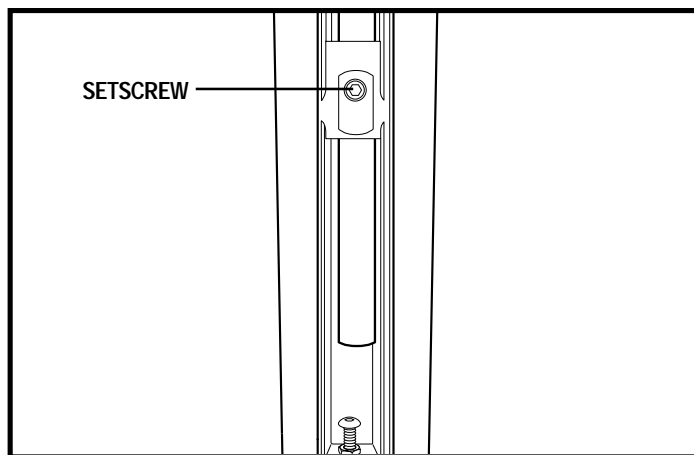

Figure 19. Underside of Armrest
6. Flip up the armrest and loosen the setscrew. See figure 19.